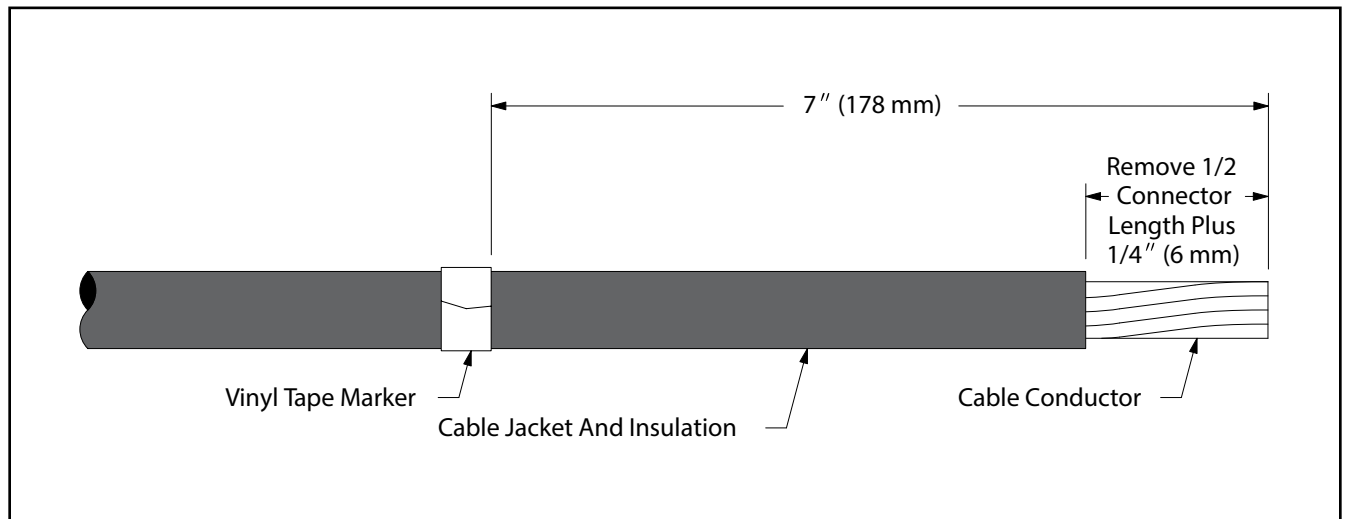

Figure 1
- a. Wrap a marker tape band around cable jacket a distance of 7" (178 mm) from cable end (*Figure 1*).
- b. Remove insulation from cable end a distance of 1/2 the connector length plus 1/4" (6 mm) (*Figure 1*).